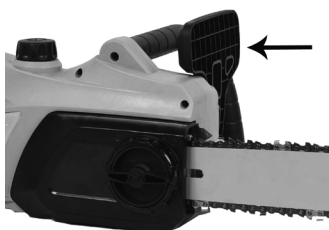

Fig. 1A
⚠ The chain brake is disengaged (chain can move) when the brake is pulled back and locked. This is the normal running position (Fig. 1A).
- Make sure the chain brake is disengaged (Fig. 1A).